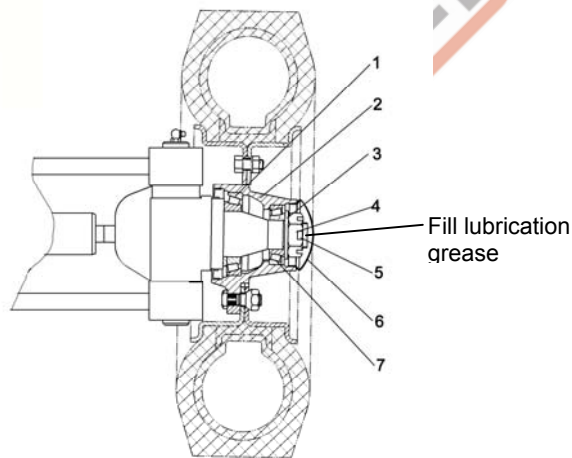

Figure 2-38 Preload adjustment
(1) As shown in Figure 2-38, fill lubricating grease into the wheel hub, internal and external bearings and the inner cavity of the wheel hub cover. And also apply some grease on the oil seal;
(2) Fix the bearing outer ring to the hub and mount the wheel hub to the knuckle;
(3) Put the washer in place and tighten the slotted nut with a torque of 206-235N.m (21-24kgm). Loosen the slotted nut and then tighten it with a torque of 9.8Nm (1kgm);
(4) Tap the wheel hub with a wood hammer and then rotate the wheel hub for 3-4 cycles to ensure that the wheel hub is not loosened;
(5) Tighten the slotted nut to align it to the cotter pin on the knuckle;
(6) And then tap gently on the wheel hub with a wood hammer and turn the wheel by hand for 3-4 cycles to ensure smooth rotation. Then measure the rotation torque of the wheel hub, which should be 2.94-7.8N. m (0.3-0.8kgm);
(7) If the torque is larger than the specified value, rotate in reverse for 1 / 6 circle to re-measure the torque;
(8) When the specified torque is reached, lock the slotted nut with a cotter pin.